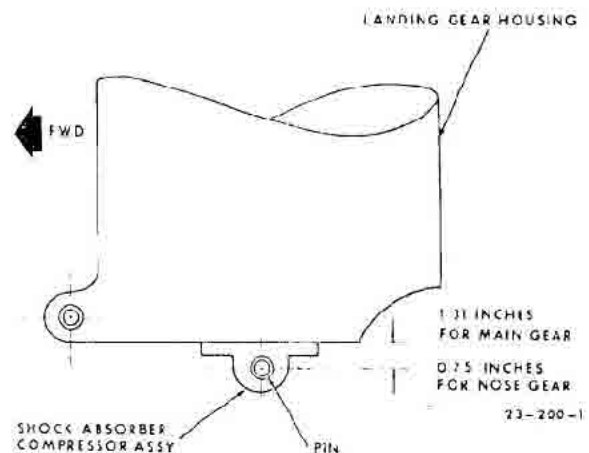

Figure 3-24. Measurement Gear Housing to Pin With New Biscuits Installed
- g. Position the rubber abrasion washer, the metal washer and the 1-7/16 inch nut on the shock absorber rod and adjust the nut to a point where the distance from the center of the pin to the bottom edge of the landing gear housing is 1.31 inches for the main gear and .75 inch for the nose gear. (See Figure 3-24)